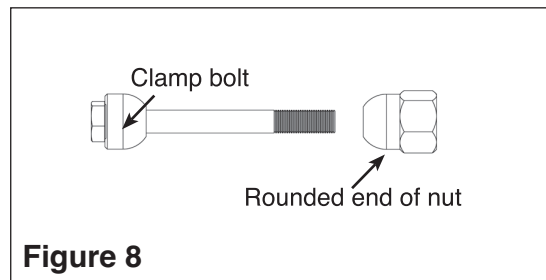

Figure 8
3. Insert the clamp bolt through the clamp ends and thread the clamp nut onto the clamp bolt, with the rounded end of the nut facing towards the ends of the clamp (see Fig. 8).